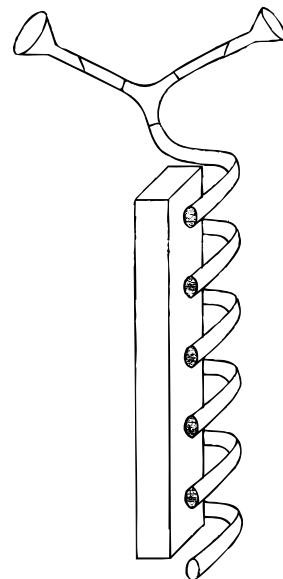

Figure 5.
- The demonstration “A Toast to Chemistry” is especially appealing if it is set up so the students can see the mixture moving. Use two funnels and clear Tygon tubing to pour the two solutions through a “Y” connector into a long coiled tube (see Figure 5). This type of apparatus gives a large surface area for light to be emitted as well as providing a flowing effect along with the luminescence—increasing the overall visual impact.